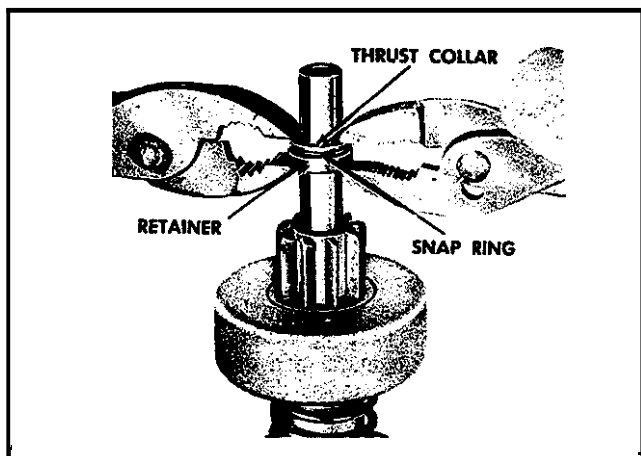

Fig. 132-Forcing Retainer over Snap Ring
- c. To force the retainer over the snap ring, place a suitable washer over the shaft and squeeze the retainer and washer together with pliers (Fig. 132).